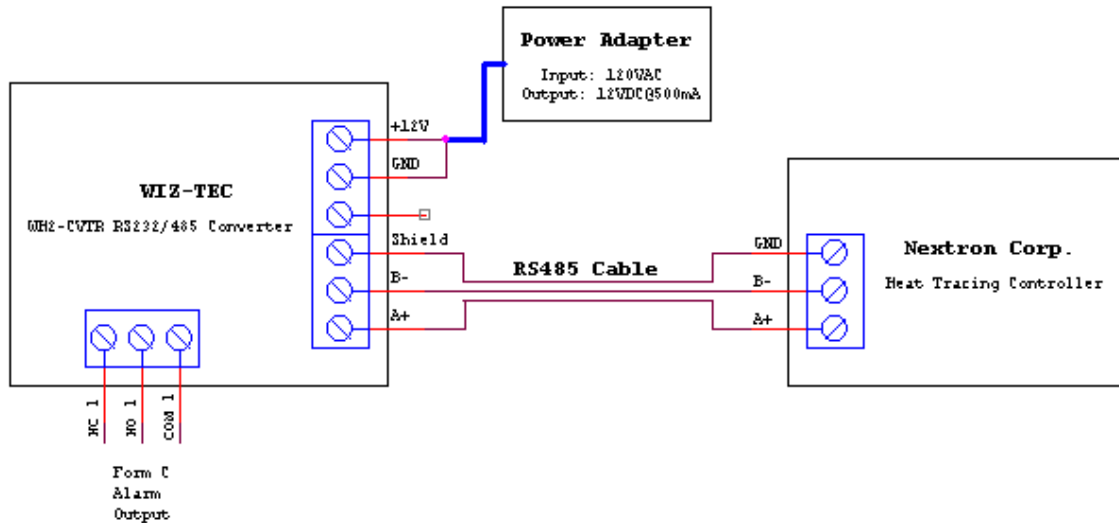

Figure 5 – RS232/RS485 Converter Wiring Diagram
(2) A RS232/RS485 converter is needed for communication signal conversion between each com port on the PC and the heat-tracing controllers. Make sure the wire connection is correct. Figure 5 is the wiring diagram for the RS232/RS485 converters from WIZ-TEC Computing Technologies Inc.